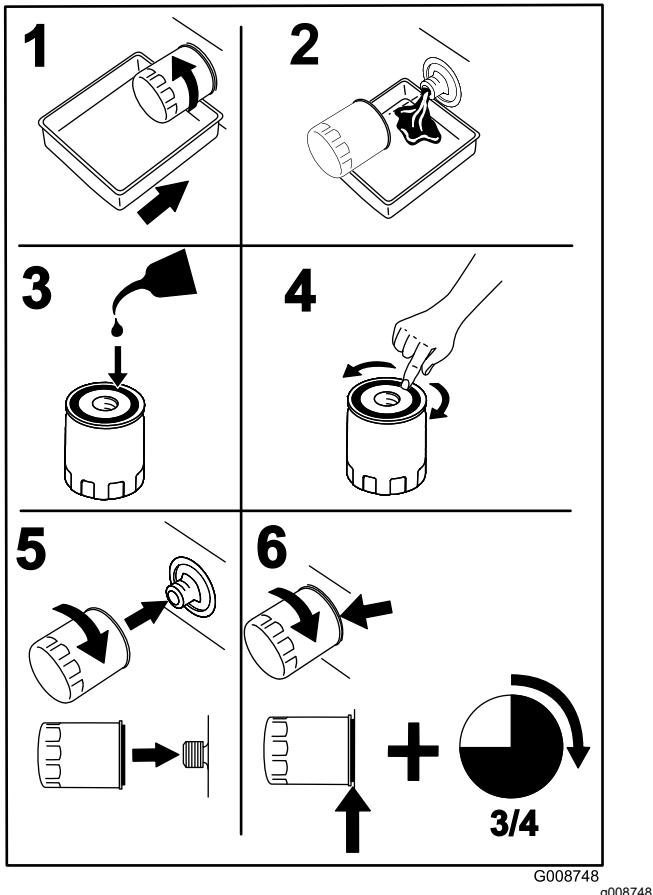

Figure 71
8. Place a drain pan under the manifold filter (Figure 71).